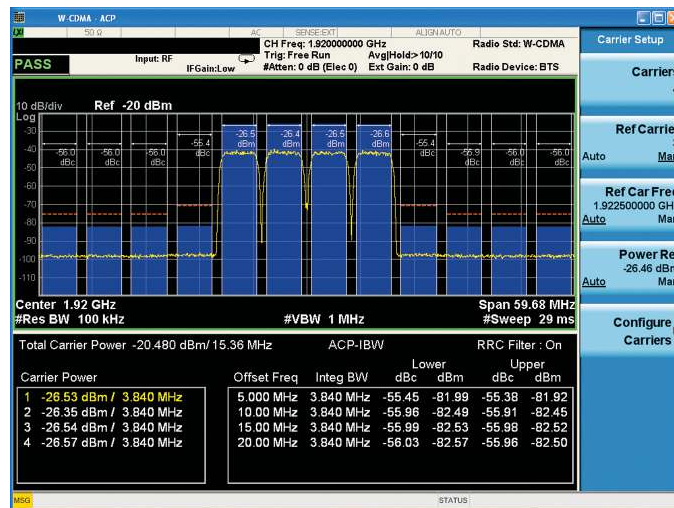

Figure 3. ACP with four-carrier W-CDMA (sample screen)
- Measure up to 12 carriers for multi-carrier ACP (Figure 3 shows 4-carrier W-CDMA ACP measurement)